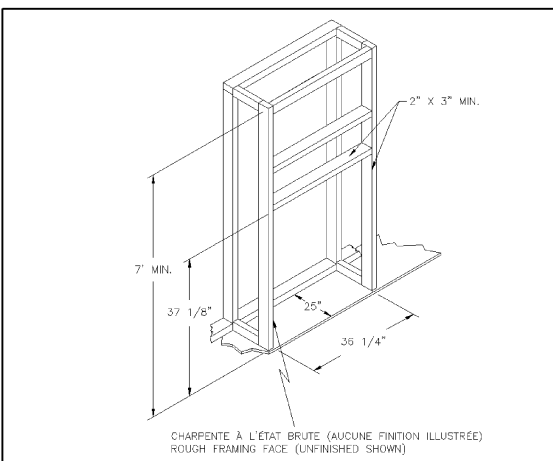

Figure 8
- C. Frame the fireplace with vertical studs at the sides of the fireplace running from floor to ceiling (see figure 8). If combustible facing is to be used, position the studs back, from the front edge of the fireplace, a space the thickness of the facing material so that the facing can be installed flush with the fireplace facing. Frame headers between the vertical studs only as follows: